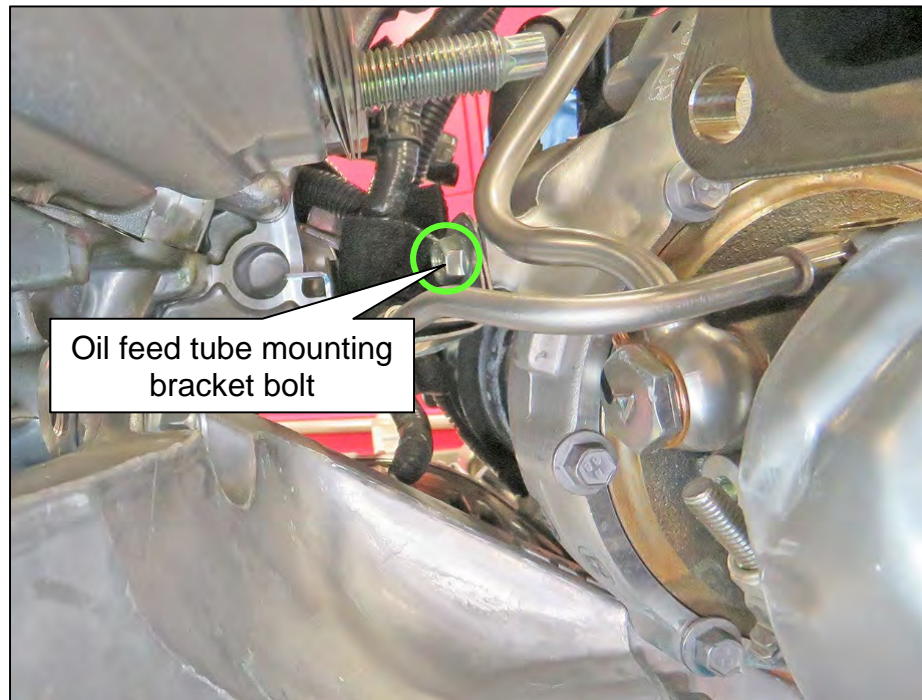

Figure 54
81. Gently remove the turbocharger from its mounting studs so that the oil line mounting bracket bolt can be reached (Figure 54).
82. Remove the oil feed tube mounting bracket bolt shown in Figure 54.